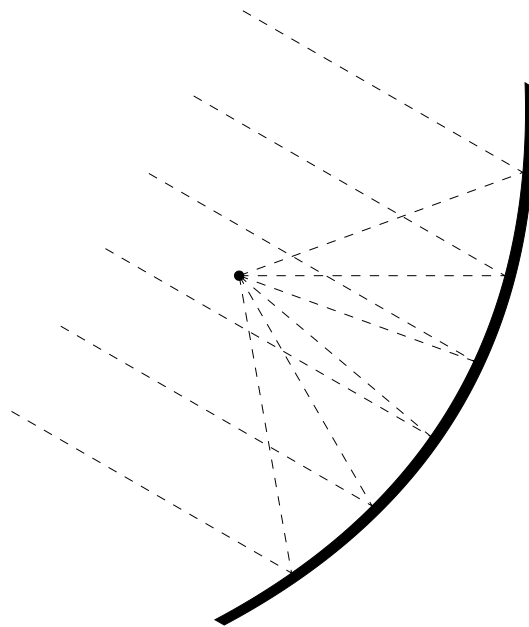

Figure 1. Parabolic Dish Antenna Aimed at Satellite
1. A 30 inch conventional dish at 10 GHz, with measured gain of 36.4 dBi and efficiency of 64%. The estimated spillover efficiency is 87% for a 10 dB illumination taper. With the dish pointing at a high elevation as shown in **Figure 1**, perhaps half of the spillover is illuminating earth at 290 **K**, which adds an estimated 19 **K** to the 6 **K** of sky noise, for a total of 25 **K**. In a 500 Hz bandwidth, the noise output is -157.6 dBm.